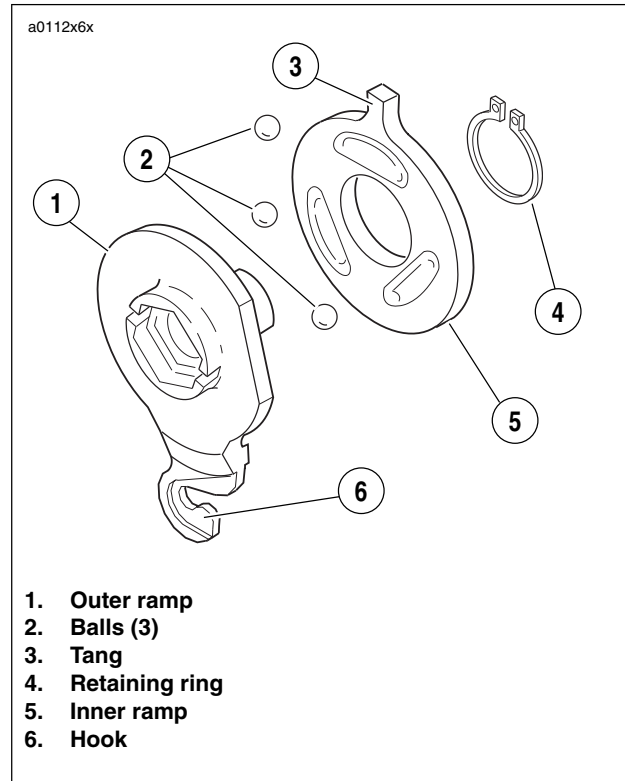

Figure 6-9. Inner & Outer Ramp
1. See Figure 6-9. Assemble inner and outer ramps.